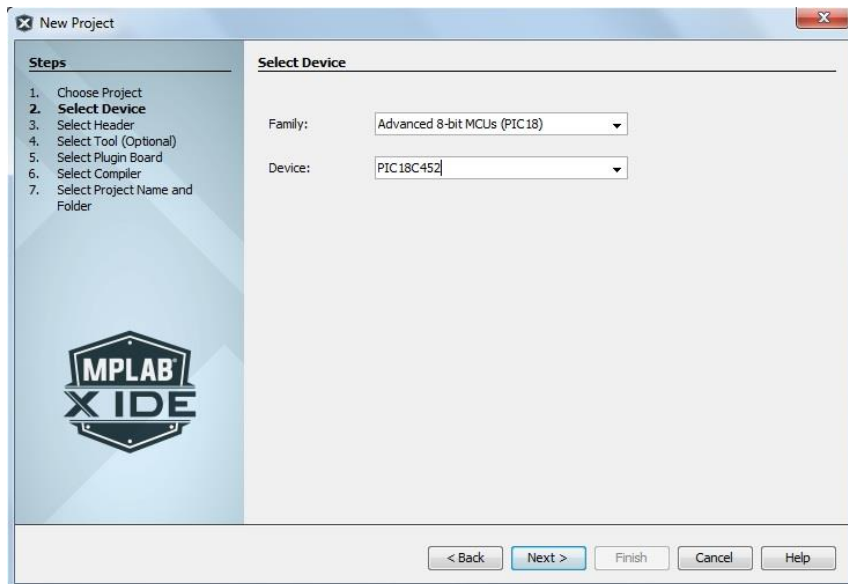

Fig 4.9 New Project – Select Device Window
4. In the “New Project” window under Categories select “Microchip Embedded” and then under Projects select “Standalone Project” option and click Next. The following window appears as shown in Fig 4.9.